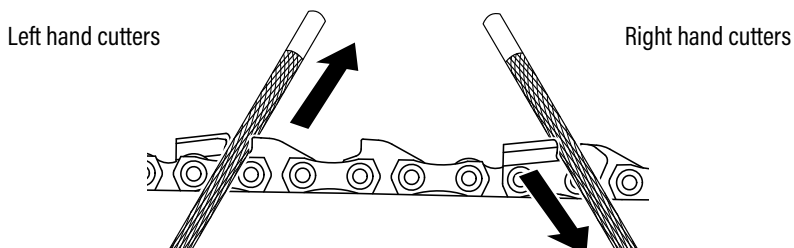

Fig. 11
7. Make several firm strokes on each tooth. File all left-hand cutters in one direction, then move to the opposite side to file the right-hand cutters in the reverse direction. Periodically remove filings from the file using a wire brush (Fig. 11).